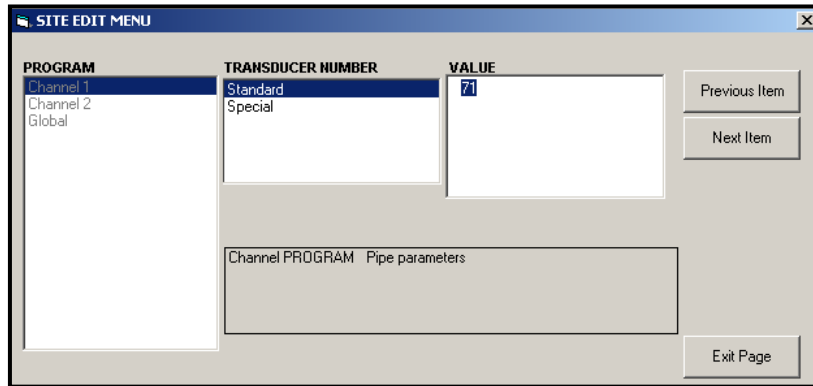

Figure 42: Pipe Parameters Option in the Site Edit Menu
- a. Highlight and double-click on the desired option in the center pane. *Figure 42 on page 79* shows the first entry (Transducer Number) in the *Pipe Parameters* option. The title above the center pane lists the current entry, while the center pane displays the available selections for that entry.